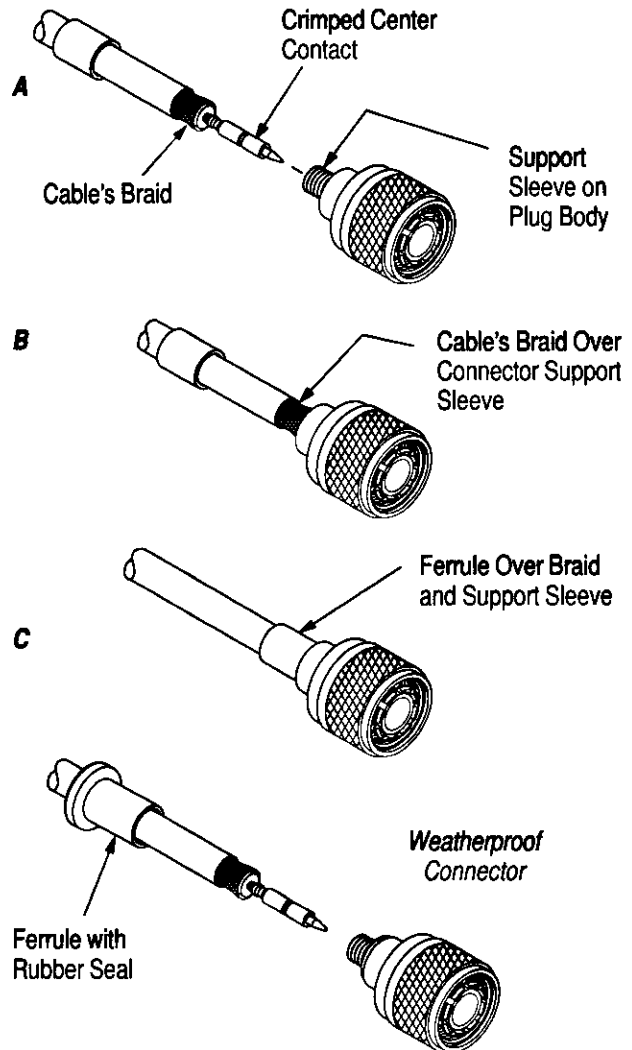

Figure 3
3. Insert the center contact into the plug body. See Figure 3, Detail A. Make sure the cable's braid is over the support sleeve of plug body. See Figure 3, Detail B. Lightly pull back to make sure the center contact is held securely by the plug body's internal locking feature.
4. Slide ferrule forward over braid and support sleeve. See Figure 3, Detail C.